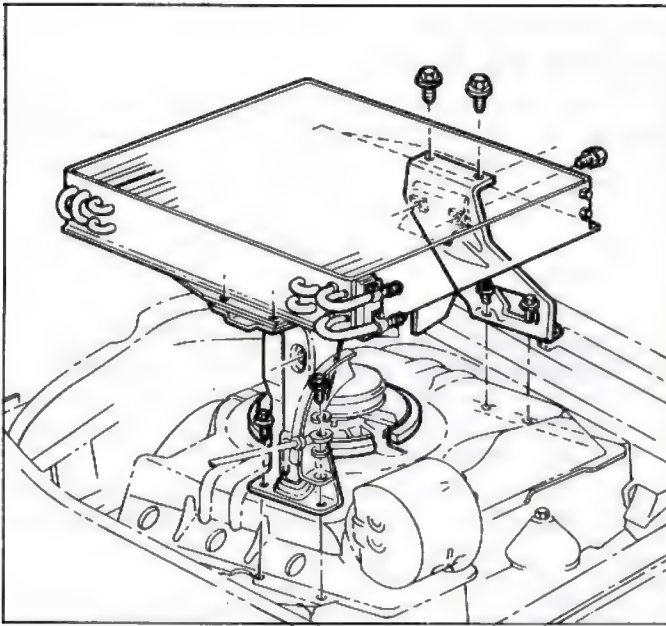

Fig. 57—Condenser Removal
3. Remove the four screws on the right side, three screws on the left side of the condenser which attach the condenser and shroud assembly to the mounting brackets (fig. 57).